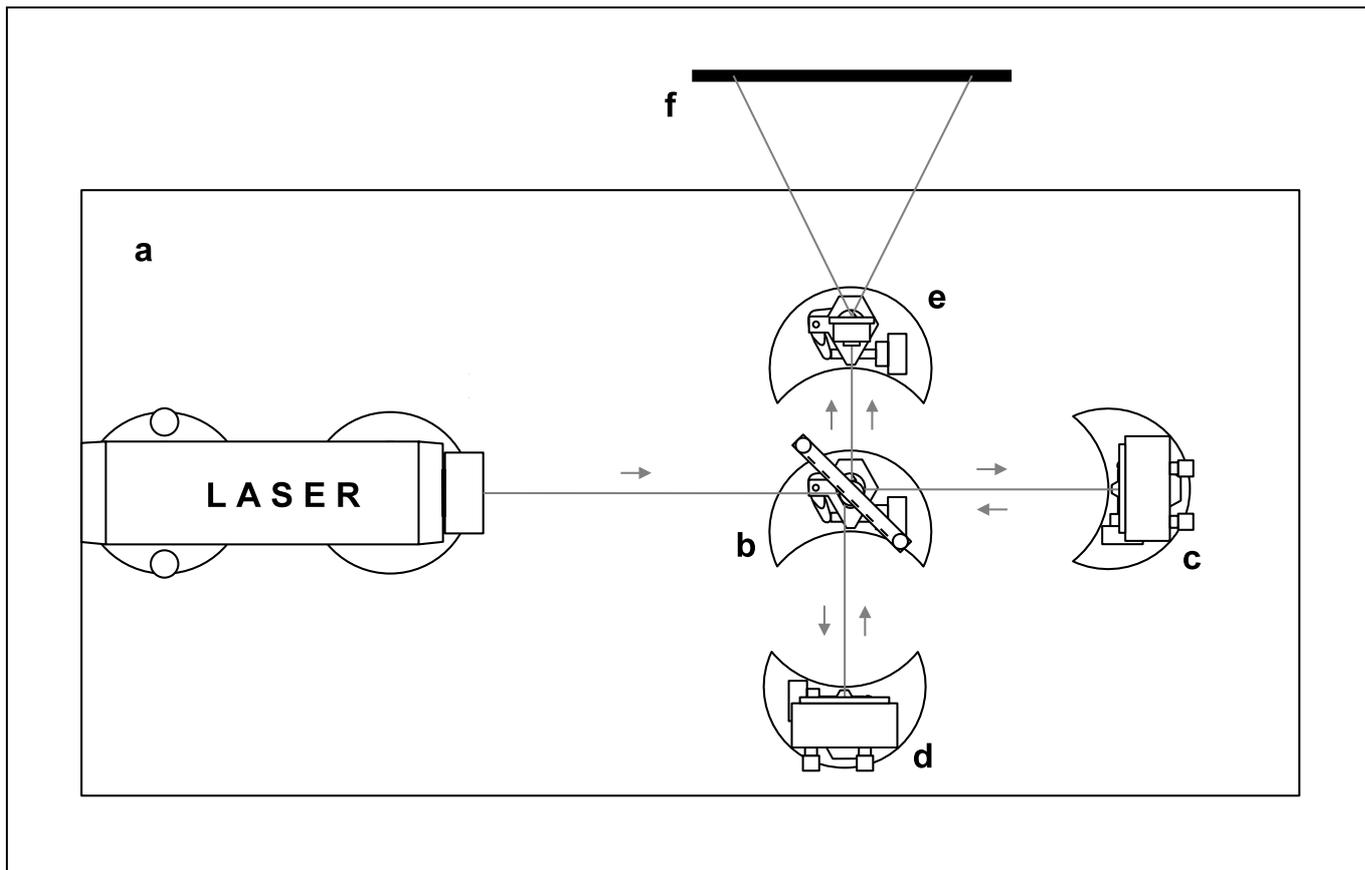

Fig. 2: Setup of the Michelson interferometer on the laser optics base plate, top view
Fig. 2 shows the setup of the Michelson interferometer on the laser optics base plate. To set up the experiment correctly, you must carry out the following steps:
- Finally, place the beam divider in the beam path at an angle of 45° as shown in Fig. 2. The partially transparent layer of the beam divider should face the laser.
- Fasten the translucent screen (f) in the base and set it up behind the laser optics base plate as shown in Fig. 2 so that the laser beam strikes it in the center.
- Place planar mirror (d) in the partial beam reflected from the beam divider (b) as shown in Fig. 2; position it about as far away from the beam divider as planar mirror (c).